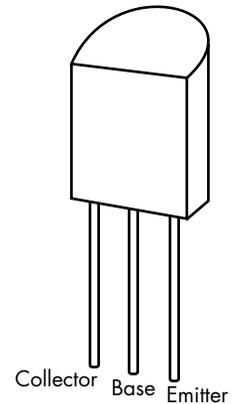

Figure 10-5: Pinout of the ZTX649 transistor
6. Connect the collector of all the transistors to where the 9V input will go (VIN of the Nano). See Figure 10-5 for the pinout of the transistor.